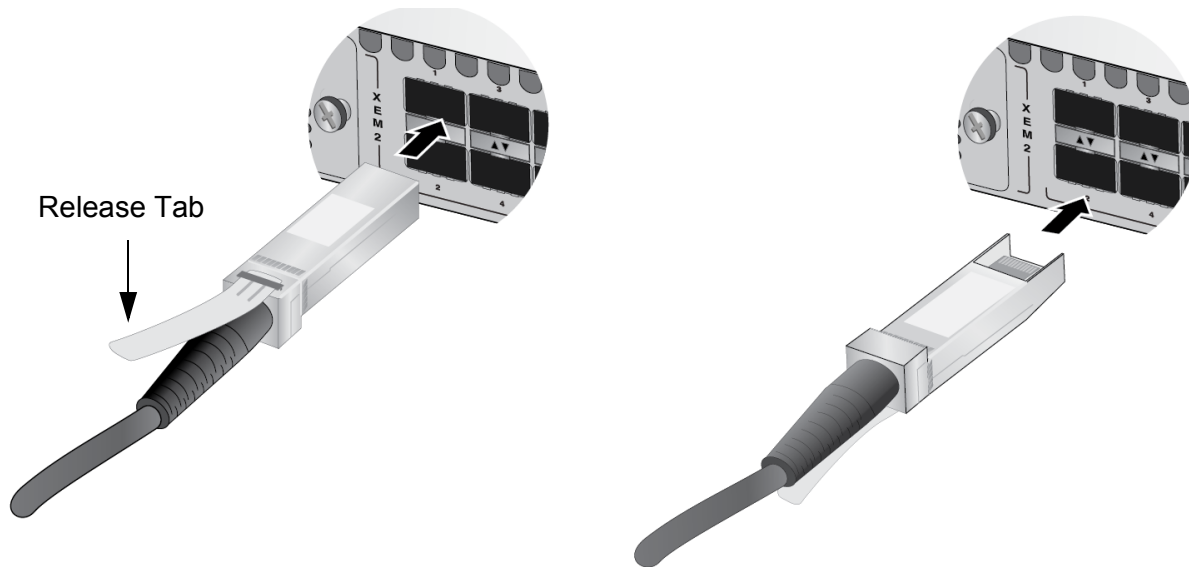

Figure 135. Installing SP10TW Direct Attach Cables
- Figure 135 shows the orientations for SP10TW direct attach cables installed in base ports 1 to 24 and XEM2-8XSTm and XEM2-12XS Cards.